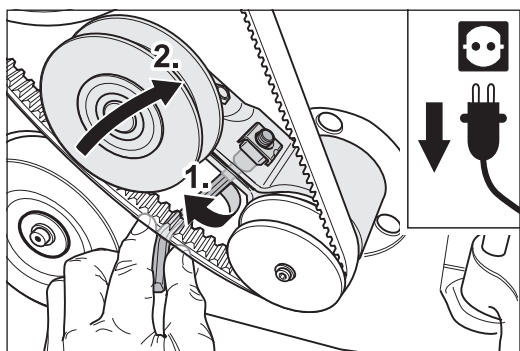

Fig. 60 Open the clamping screw (1.) and release the tension of the V-belt (2.).
- 4 Open the clamping screw of the belt tensioner for the fan V-belt (Fig. 60, 1.), and release the tension of the V-belt (Fig. 60, 2.).